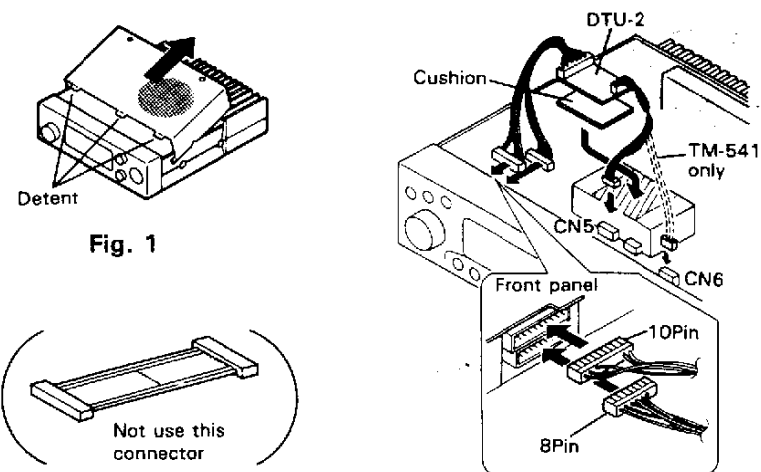

Fig. 2
5. Attach the cable from DTU-2 as shown in Fig. 2 and 3.